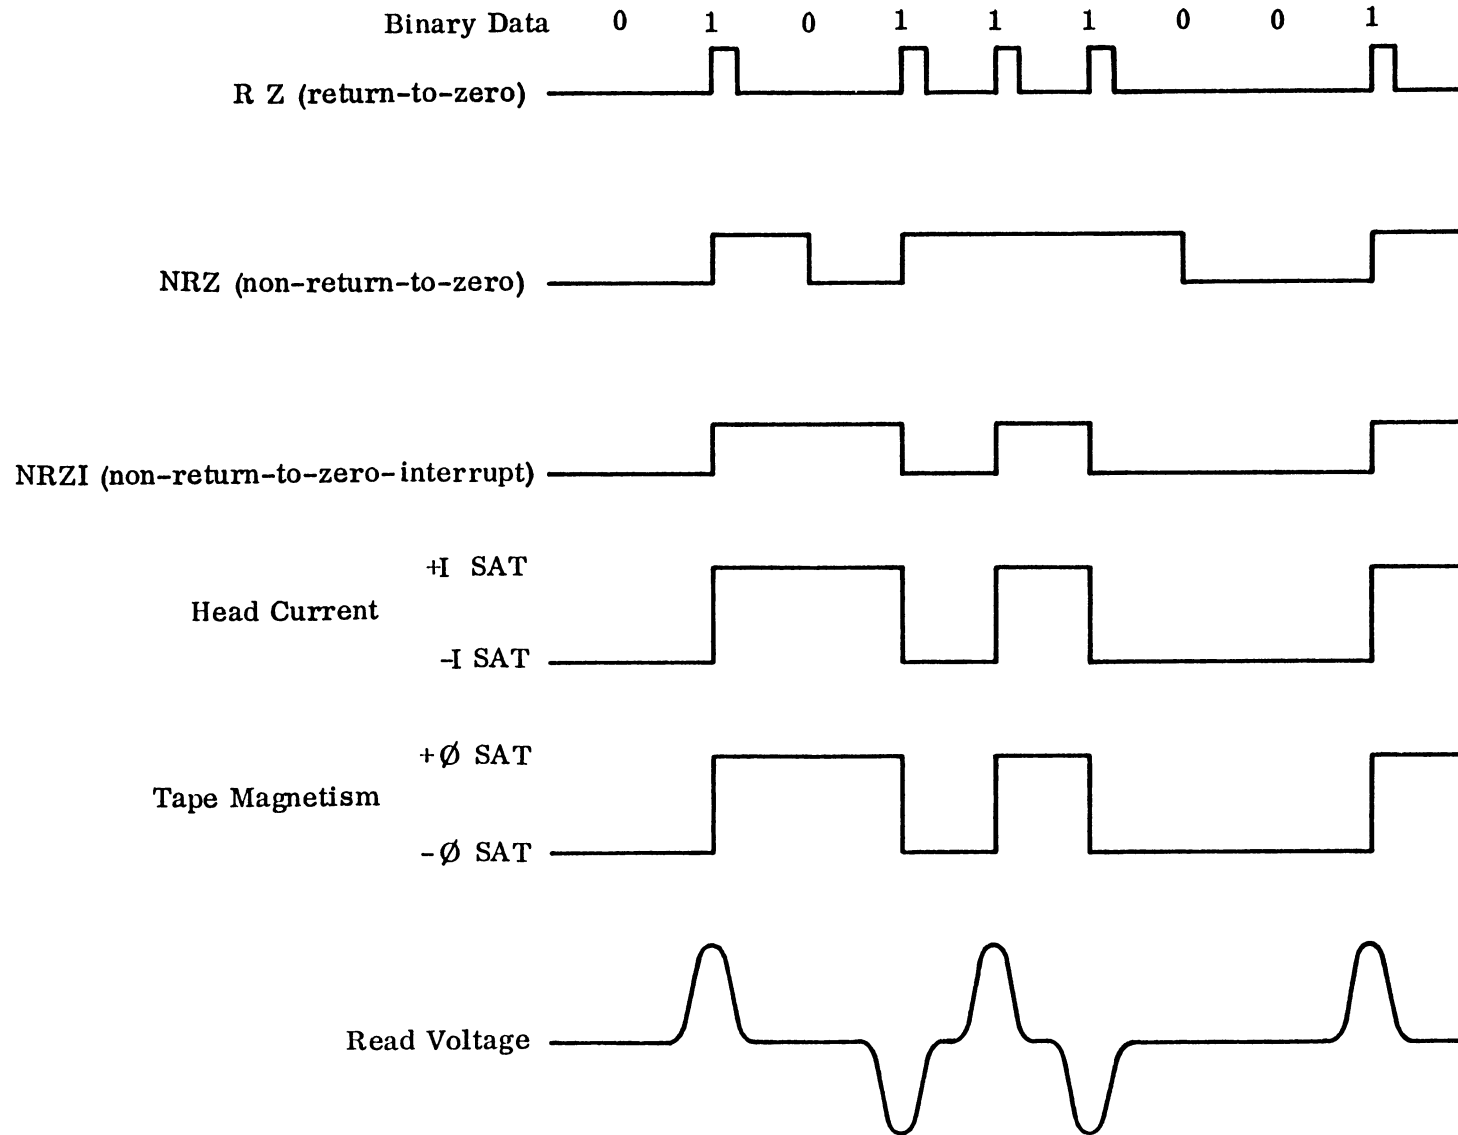
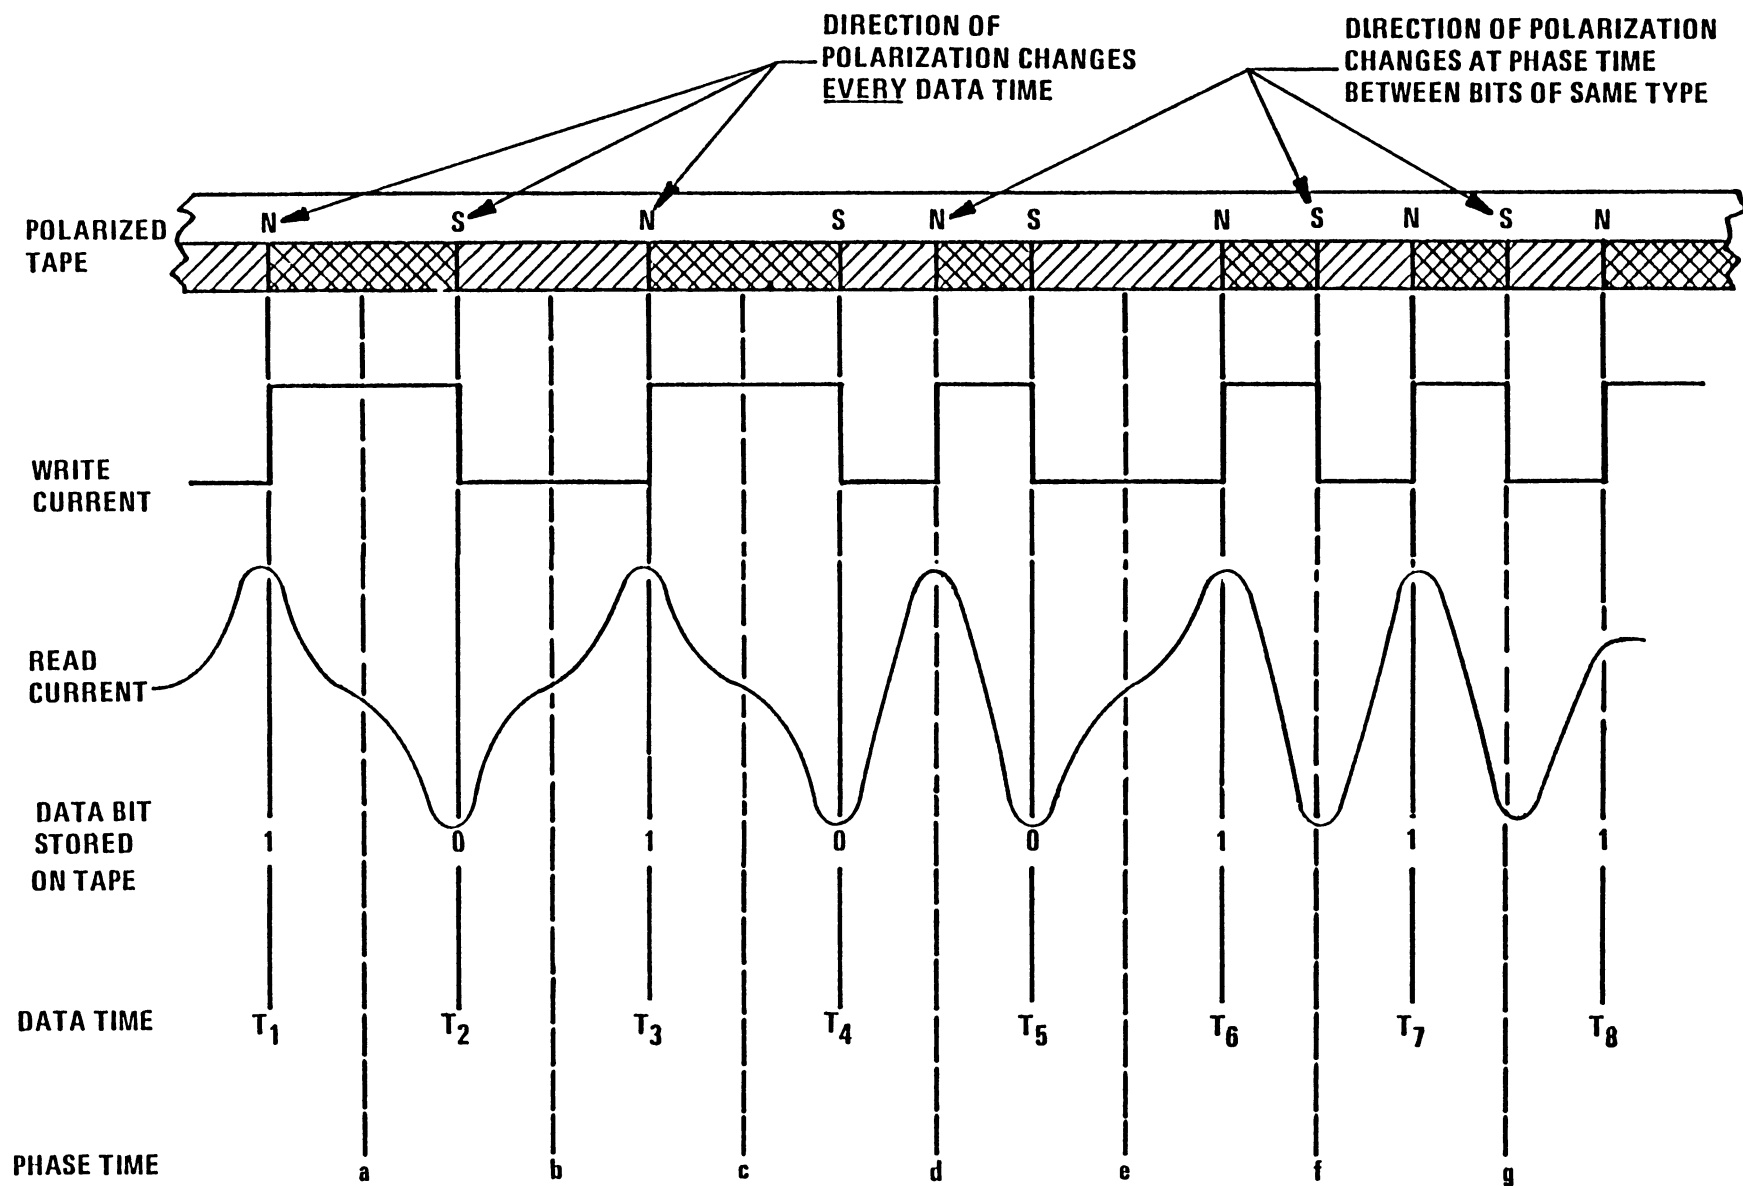

Figure 4-1. Magnetic Recording Waveforms
Figure 4-2. Phase-Encoded Tape Magnetization
4-7. In NRZI systems, a binary 1 signal in a given channel produces a transition from plus to minus (or vice versa) saturation magnetism (+SAT and -SAT, Figure 4-1) in its track on the tape, whereas a binary 0 signal produces no change in magnetism in its track. In phase-encode writing, a binary 1 signal produces a transition to the IBG polarity on the tape when running forward (Figure 4-2); a binary 0 produces a transition away from IBG.
4-8. As a written tape passes across the magnetic read head of a transport, the head responds to each change of flux arriving at its gap and produces a read voltage waveform for each track such as illustrated in Figure 4-1 (NRZI) or Figure 4-2 (PE). (See paragraph 4-14 for a detailed description of magnetic tape recording/reading in the NRZI mode, paragraph 4-22 for phase-encode.)
4-22. PHASE-ENCODE SYSTEM. The differences between phase-encoded (PE) and NRZI writing are chiefly in presentation and phasing or coding. In NRZI coding, a single change of polarization on the tape represents a logical 1, while no change represents a logical 0. In PE writing, both the logical 1 and 0 involve changes in polarization. Phasing, however, is the key difference between PE and NRZI. The major advantages offered by PE are reduced possibility of losing data because of inadequate signal strength (making practical low read thresholds) and the fact that each track is self-clocking, reducing skew problems. PE writing is done only in a nine-track mode. Basic features of the PE system are as follows (Figure 4-2):